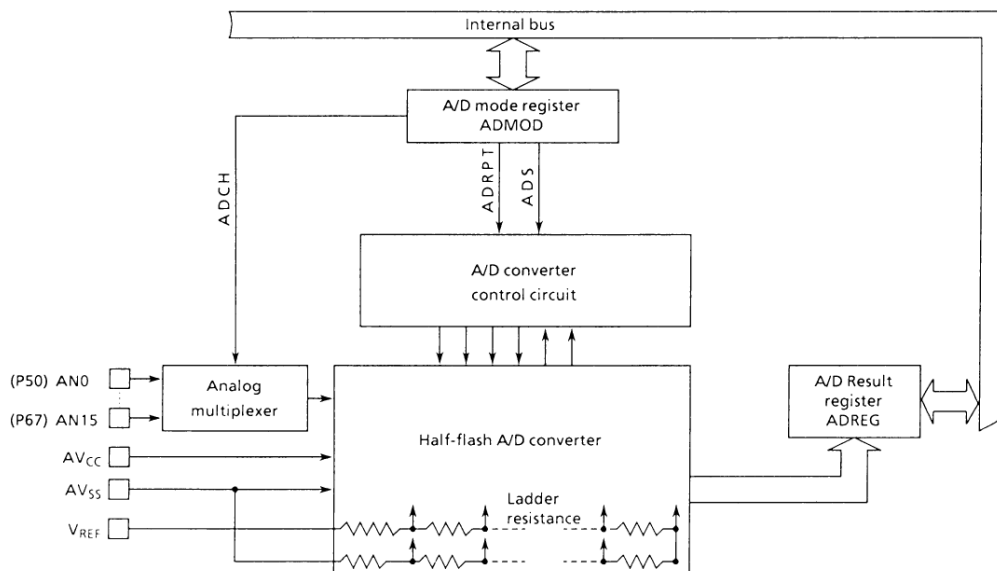

Figure 3.10 (1). A/D Converter Block Diagram
The A/D converter block diagram is shown in Figure 3.10 (1).